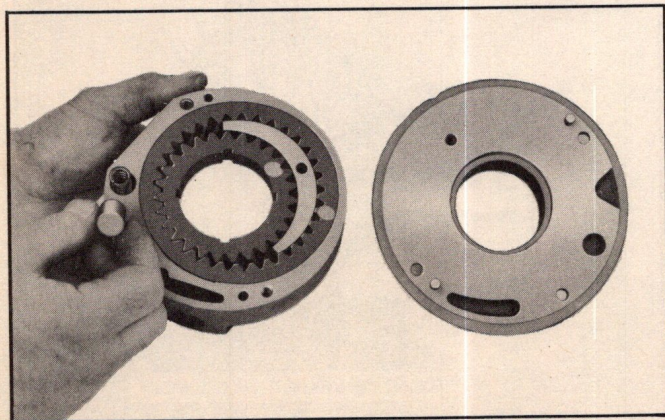

Fig. 276—Assembling Front Oil Pump
4. Lubricate both pump gears with Hydra-Matic fluid. Install both gears in gear pockets of body. (Be sure sides of gears marked with Prussian Blue are up.) (Fig. 276)